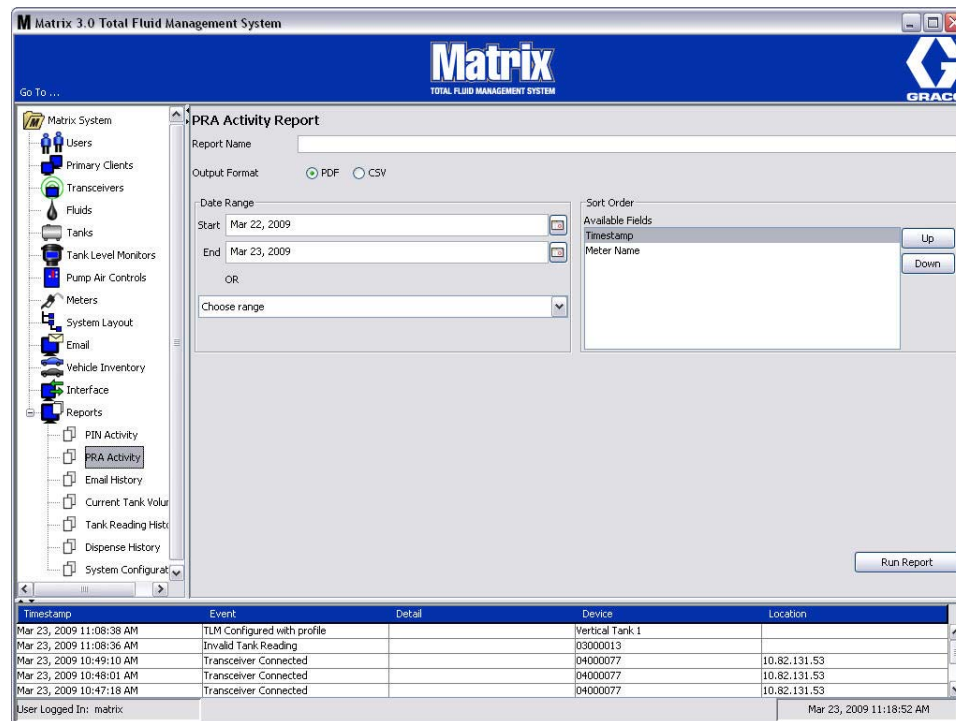

FIG. 181
- **PRA Activity Screen (FIG. 181)**